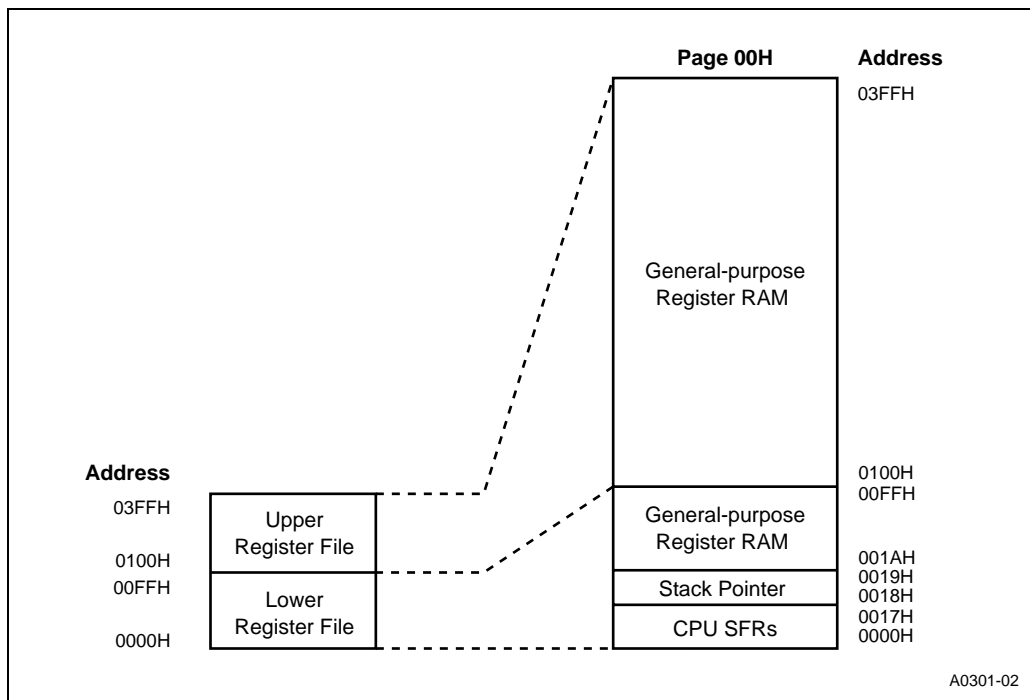

Figure 4-4. Register File Memory Map
The register file is divided into an upper register file and a lower register file (Figure 4-4). The upper register file consists of general-purpose register RAM. The lower register file contains additional general-purpose register RAM along with the stack pointer (SP) and the CPU special-function registers (SFRs).